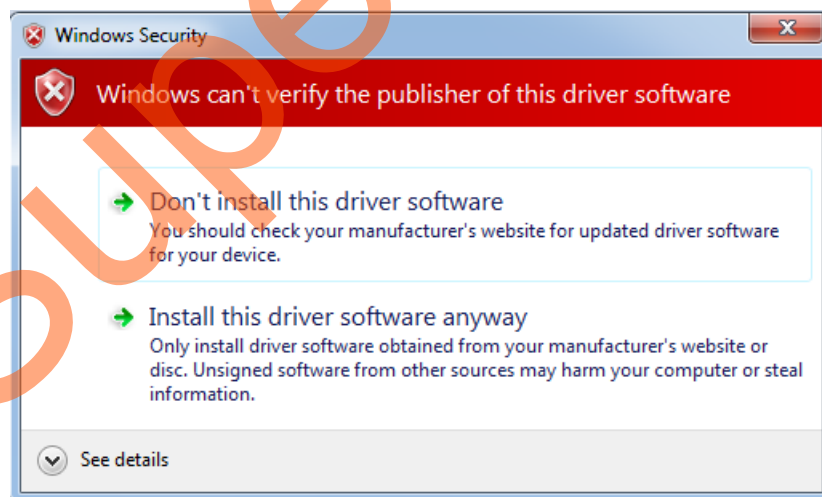

Figure 14 • Windows Security
4. Click **Install this driver software anyway** if the window appears as shown in Figure 14.